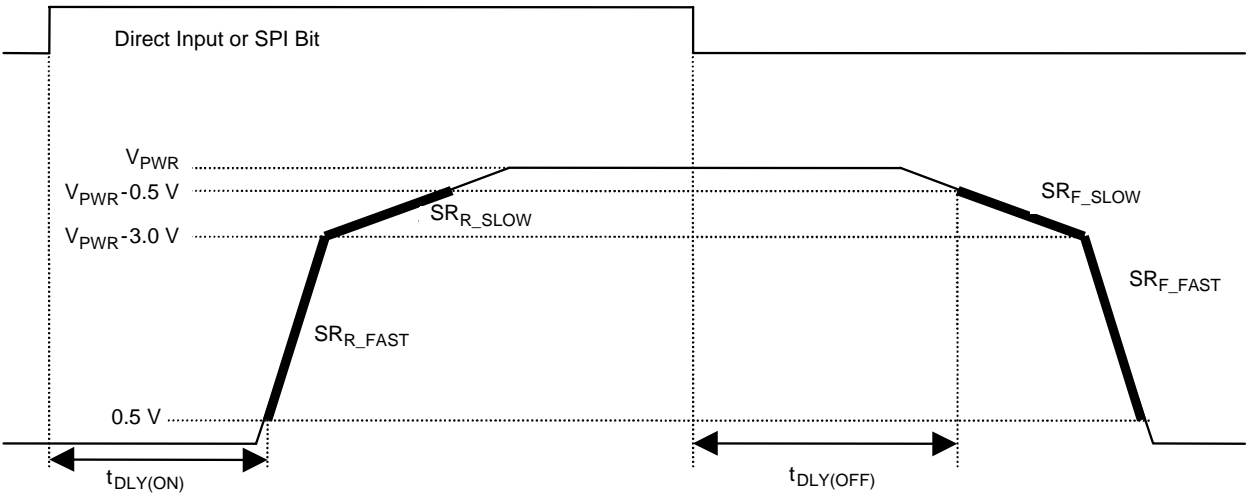

Figure 5. Output Slew Rates and Time Delays, High Side
27. High-side output rise and fall fast slew rates measured across a $5.0\ \Omega$ resistive load at high-side output = 0.5 V to $V_{PWR}-3.0\text{ V}$ (see Figure 5, page 17). These parameters are guaranteed by process monitoring.
28. High-side output rise and fall slow slew rates measured across a $5.0\ \Omega$ resistive load at high-side output = 0.5 V to $V_{PWR}-3.0\text{ V}$ (see Figure 5, page 17). These parameters are guaranteed by process monitoring.
29. High-side output turn-ON delay time measured from 50% of the rising IHS to 0.5 V of output OFF with $R_L = 27\ \Omega$ resistive load (see Figure 5, page 17).
30. High-side output turn-OFF delay time measured from 50% of the falling IHS to $V_{PWR}-2.0\text{ V}$ of the output OFF with $R_L = 27\ \Omega$ resistive load (see Figure 5, page 17).